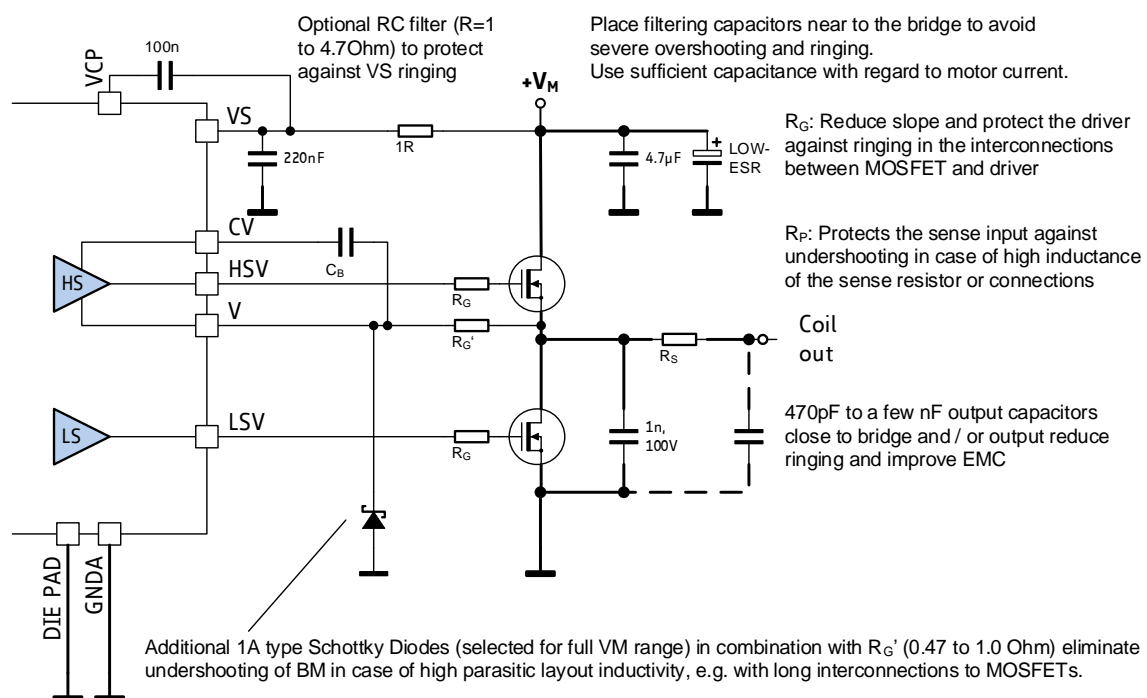
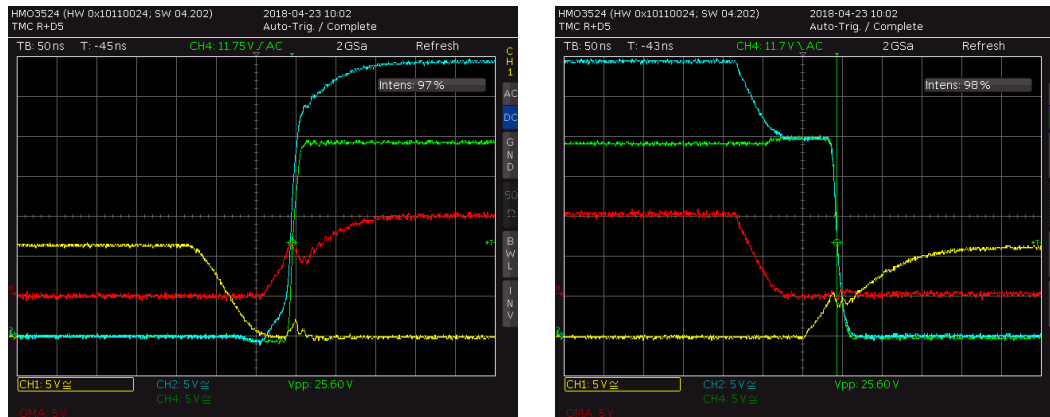

Figure 3.6 Bridge protection options for power routing inductivity
Figure 3.7 Ringing of output (green) and Gate voltages (yellow, blue) with DRVSTRENGTH=0
Stray inductance in power routing will cause ringing whenever the opposite MOSFET is in diode conduction prior to switching on a low-side or high-side MOSFET. Diode conduction occurs during break-before make time whenever the load current is inverse to the following bridge polarity. The MOSFET bulk diode has a certain, type specific reverse recovery time and charge. This time typically is in the range of a few 10ns. During reverse recovery time, the bulk diode will cause high current flow across the bridge. This current is taken from the power supply filter capacitors (see thick lines Figure 3.6). Once the diode opens, parasitic inductance tries to keep the current flowing. A high, fast slope results and leads to ringing in parasitic inductivities in the current path (see Figure 3.7). This may lead to bridge voltage undershooting the GND level as well as short pulses on VS and all MOSFET connections. It must be ensured, that the driver IC does not see spikes on its BM pins undershooting GND more than 5V. Severe VS ripple might overload the charge-pump circuitry. Measure the voltage directly at the driver pins to driver GND. The amount of undershooting depends on energy stored in parasitic inductivities from low side MOSFET drain to low side source GND connection.
- Add optional gate resistors close to MOSFET gate and output capacitors to ensure clean switching and reliable operation by minimizing ringing. Figure 3.6 shows the options plus some variations.
The MOSFETs offer roughly 20ns slope time at the lowest driver strength setting. Switching quality is good and signals are clean (Figure 3.7, ff.). At double drive strength, the slope time halves, and switching events still are clean. When increasing to full gate drive strength faster slopes lead to increased ringing on all signals. Low or medium slope setting is best. Additional gate resistors or 1nF output capacitors do not bring any additional improvement. The layout already proves to be good.
- Check influence of optional components shown in Figure 3.6.